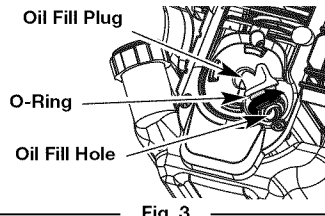

Fig. 3
Your unit is supplied with one 3.04 fluid oz. (90 ml.) bottle of SAE 30 SF, SG, SH oil (Fig. 3).
3. Remove the oil fill plug from the crankcase (Fig. 3).